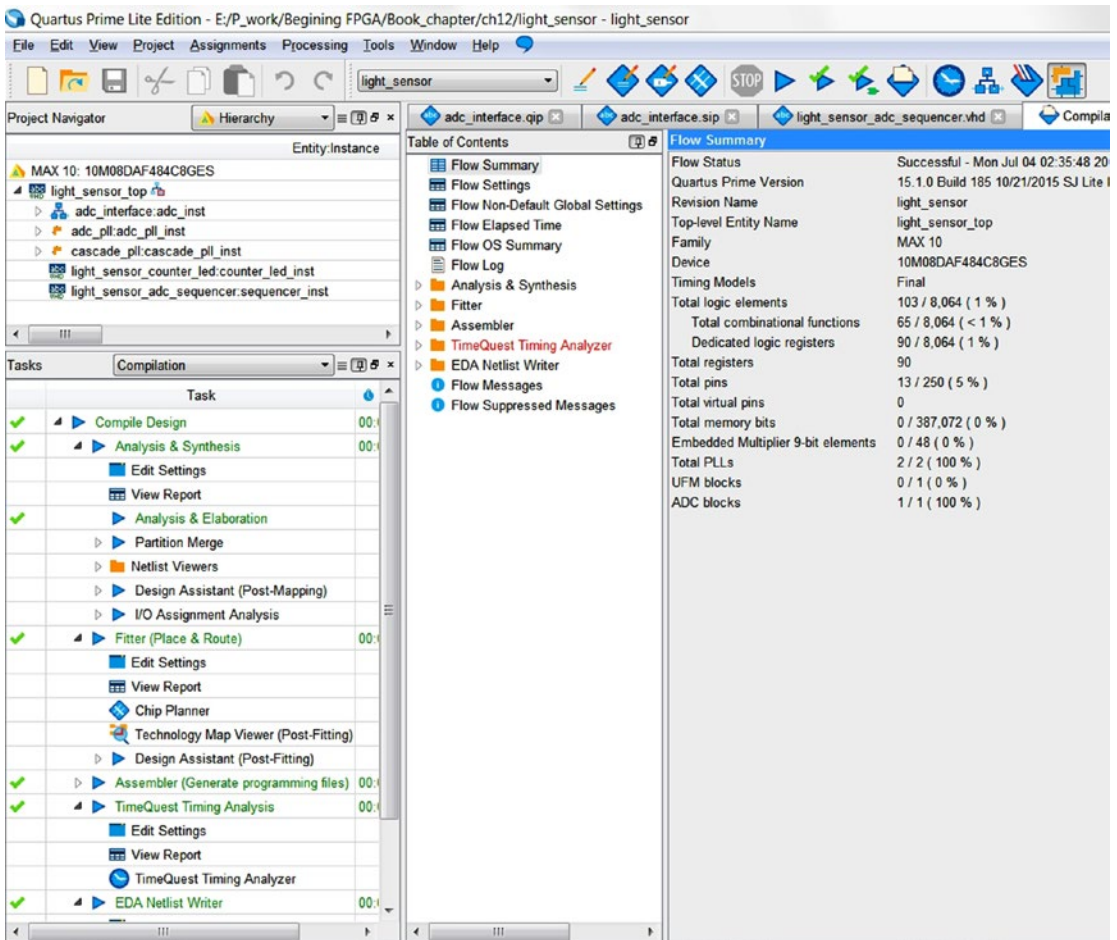

Figure 12-38. Compilation result
Step 5: Click the  or select **Start Compilation** from the **Processing** menu. You should see Figure 12-38 as your result. In the Task window (lower left), it should have all green checks, a 100% progress bar, and no red errors in the Message window. At this point, you are ready to upload the design to the MAX10 FPGA.
Now you have all of the files in the project and you can start simulating the design one block at a time. You need to make sure the project is compiled and the Project Navigator shows the Hierarchy as in Figure 12-38 before you move to the simulation section.